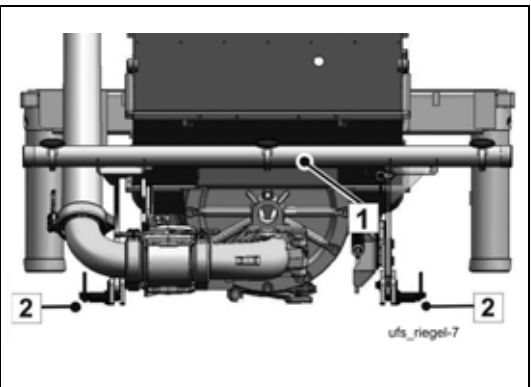

Fig. 57 Lock position (2)
- Release both locks (2) on the underride protection (**Fig. 57**).